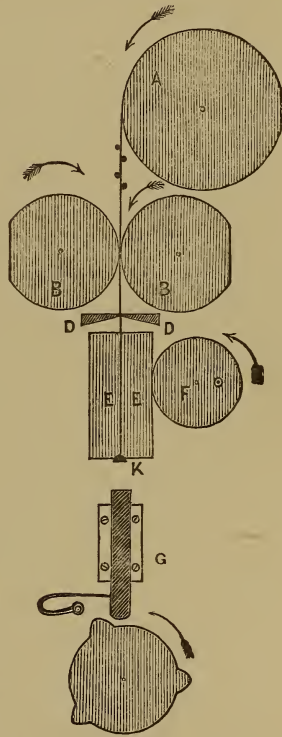

Fig. 54.—Machine for making Pins.
with the aid of a drawing or two ; but the details of pin-making machines vary according to the many patents by which, from time to time, the different contrivances for pointing, heading, cutting off, &c., have been protected since Wright's first invention was established in 1820. The simplest way will therefore be to give a plan of the different parts, omitting the framing, and not confining ourselves precisely to any single patented machine. The several processes will be—(1) Straightening the wire ; (2) drawing forward enough for one pin ; (3) holding it fast that (4) it may be headed ; and it has then (5) to be cut off, (6) pointed, and then lastly delivered into boxes or baskets as a complete pin, requiring only to be whitened, finished, and packed for sale. A single machine now accomplishes the whole of these operations except the two last, viz., the whitening and finishing. The insertion into papers in rows is now done by machinery also. The brass wire is wound upon a slightly conical reel (A, fig. 54), which revolves upon an upright axis or pin fixed at the back of the machine. This may be called the “feed,” which is rapidly drawn into the insatiate maw of the machine, to be metamorphosed into the article in question, which article we take as the representative of inappreciable value, simply because the supply is so prodigious. To obtain such valueless article has, nevertheless, cost a mint of money, and much wear and tear of mind and brain.